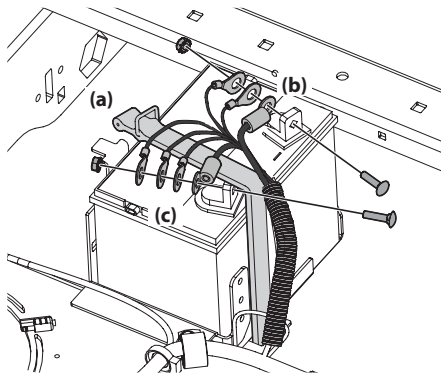

Figure 4-5
2. Unhook the strap (a) holding the battery in place. See Figure 4-5.